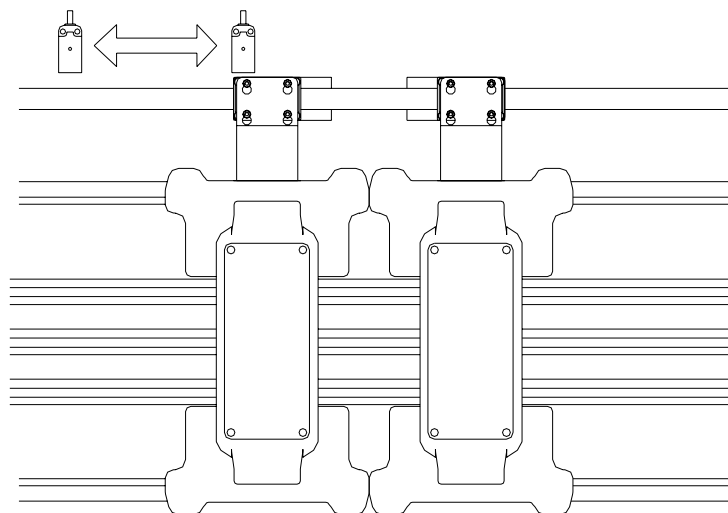

Fig.10.1 Combination & separation carriage
- ① Turn off power.
- ② Fig.10.1 is a top overview of carriages.
- ③ Loosen the four screws unconnected plate of driving belt, push the connecting-block to the direction of carriage to pass, then take off the connecting-block.
- ④ In separate situation , the interval of two knitting piece must be minimum 180 mm. (Each 90 mm inactive area to left and right from the central needle.)
- ⑤ Move carriage to the marked position on belt, and replace the belt fixed connecting-block.
- ⑥ Move the left orange relay which is on the back of driving belt as follows.